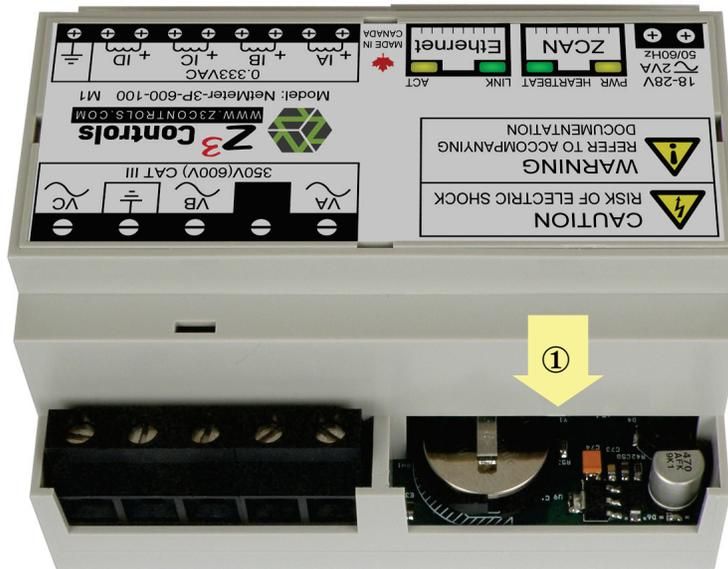

Figure 15: Battery Access Cover
After disconnecting all power sources to the NetMeter, the clock battery can be accessed through a snap-out cover as shown in Figure 15. Gently push on the NetMeter housing at ① (this will help release the cover) and carefully pry up on the battery access cover and remove it.